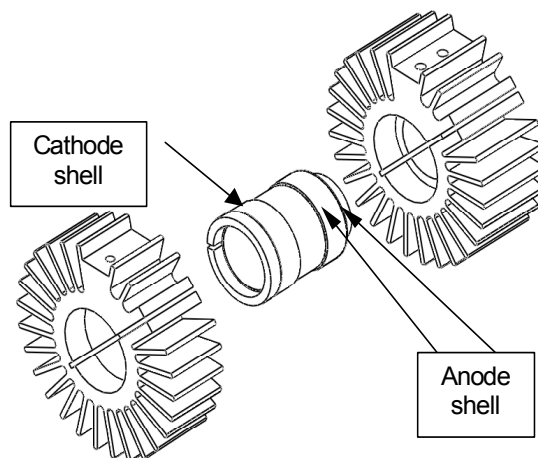
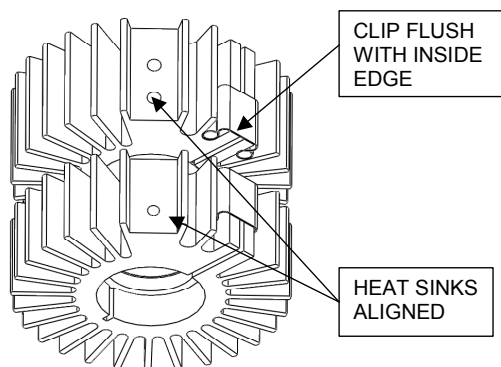

Figure 5. Bulb surfaces requiring they be covered with thermal compound.
Figure 6. Heat sink alignment and positioning of the retaining clips.
6. Without removing the protective cap from the new bulb, apply a thin, even layer of thermal compound to the side surfaces of the anode shell as shown in Figure 5.
thin, even layer of thermal compound on the cathode shell on the surface shown in Figure 5. Slide on the front heat sink, align it with the rear heat sink (Figure 6) and press on the retaining clip positioning it flush with the inside edge of the heat sink.